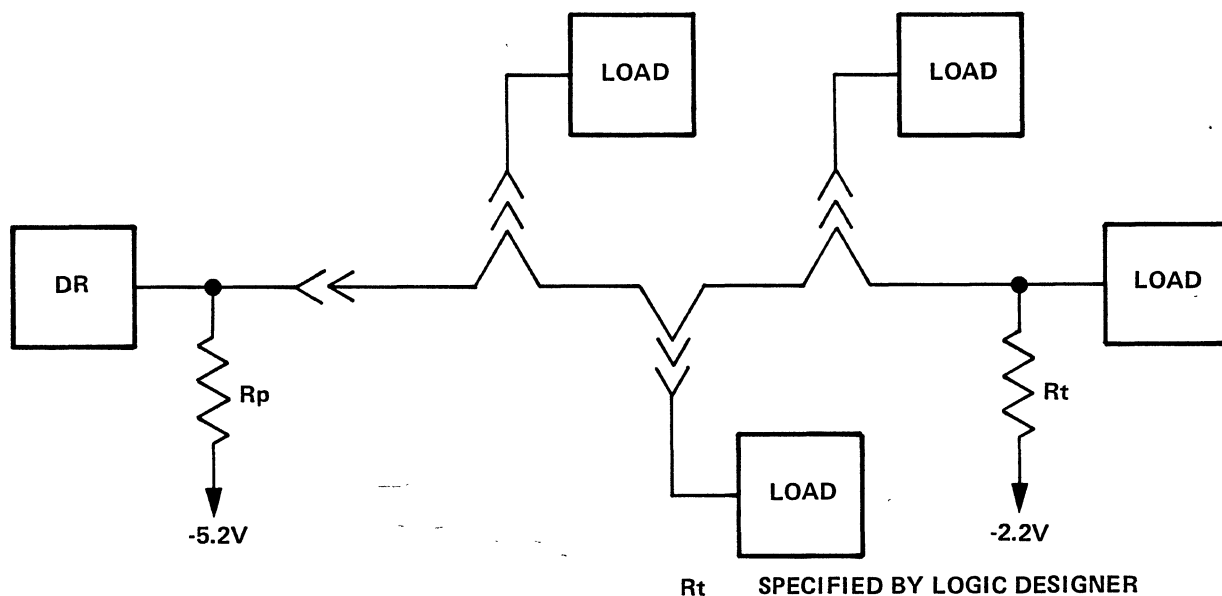

Figure 4-3. Stub Line
- a. Stub lines, as shown in figure 4-3.